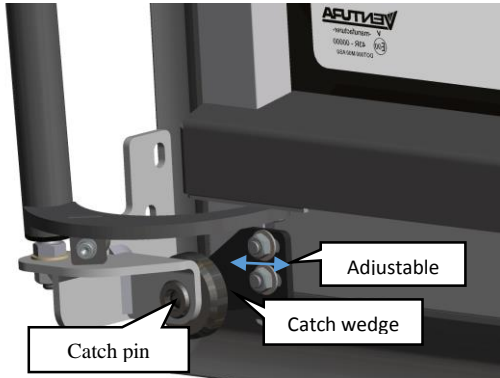

Figure 1.6: First generation catch wedge
1.	<p>First identify the type of catch block using figure 1.6 to 1.8.</p> <p>Check if the catch wedge is caught by the catch block when closing the door. If not then readjust the alignment of the catch wedge. If so, recheck paragraph 1.1 to see if the space between the door leaves is still $104\pm 2\text{mm}$.</p>